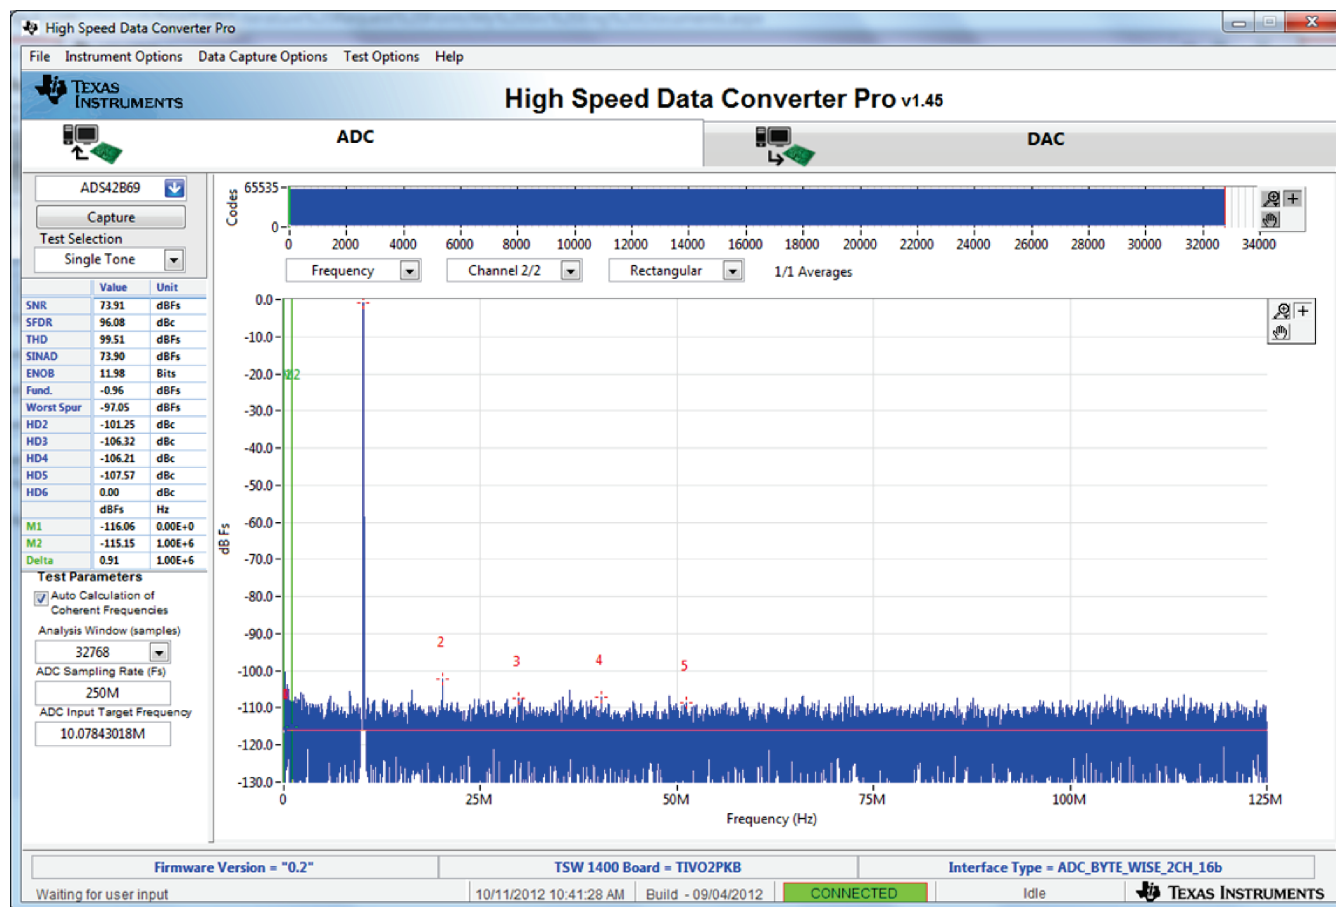

Figure 6. ADS42LB69 Sample Capture using the TSW1400
8. All boards and software are now setup. Click the *Capture* button. A sample capture is shown in Figure 6 for the ADS42LB69 with a 250-MHz clock and 10-MHz input frequency.